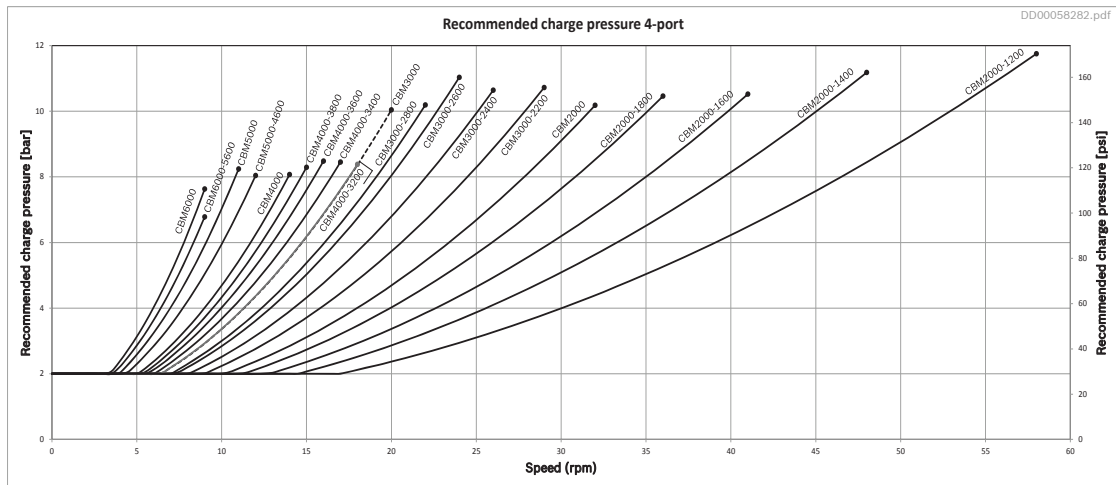
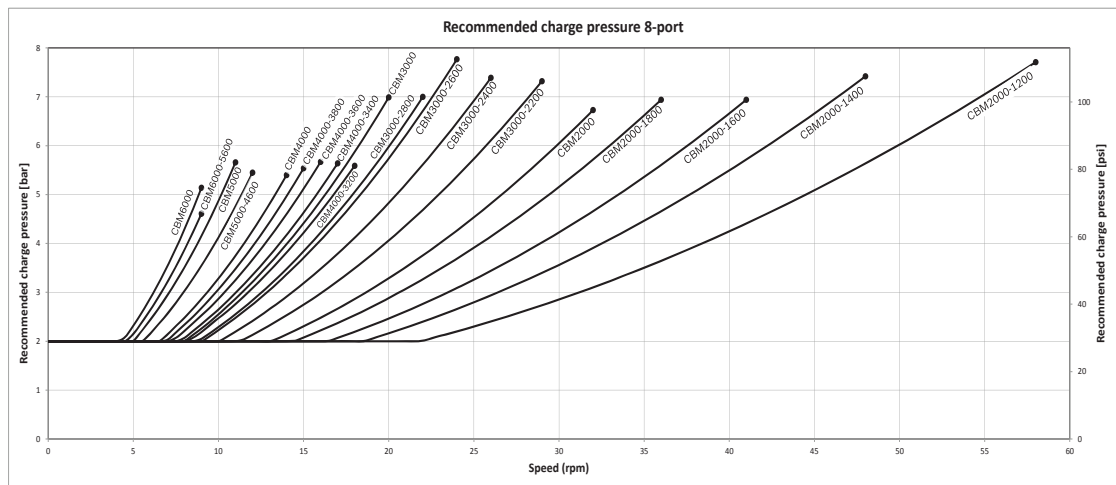

Fig. 56: Recommended charge pressure - CBM motors 4-port connection
Fig. 57: Recommended charge pressure -CBM motors 8-port connection
- ▶ Charge pressure at motors connection must be according to recommended pressure under all conditions, see *Fig. 56: Recommended charge pressure - CBM motors 4-port connection* and *Fig. 57: Recommended charge pressure -CBM motors 8-port connection*.
See *Fig. 56: Recommended charge pressure - CBM motors 4-port connection* and *Fig. 57: Recommended charge pressure -CBM motors 8-port connection*.